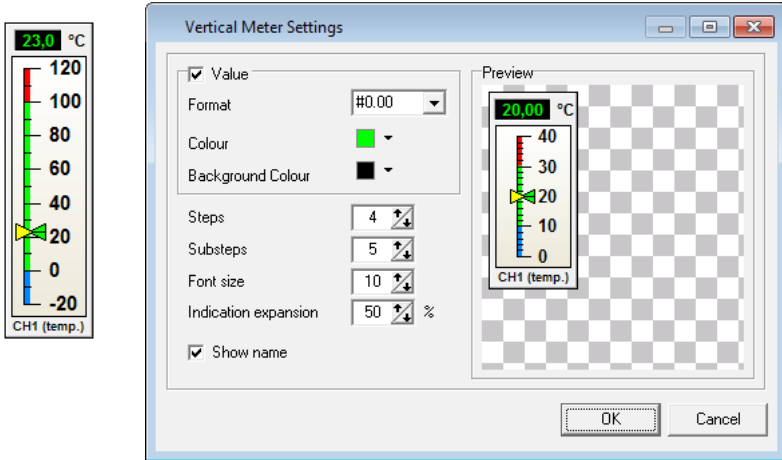

Figure 9.5. Example of a vertical meter with the appearance settings window
- Settings of Vertical Meter type indicator (**Figure 9.5**) are as follows: